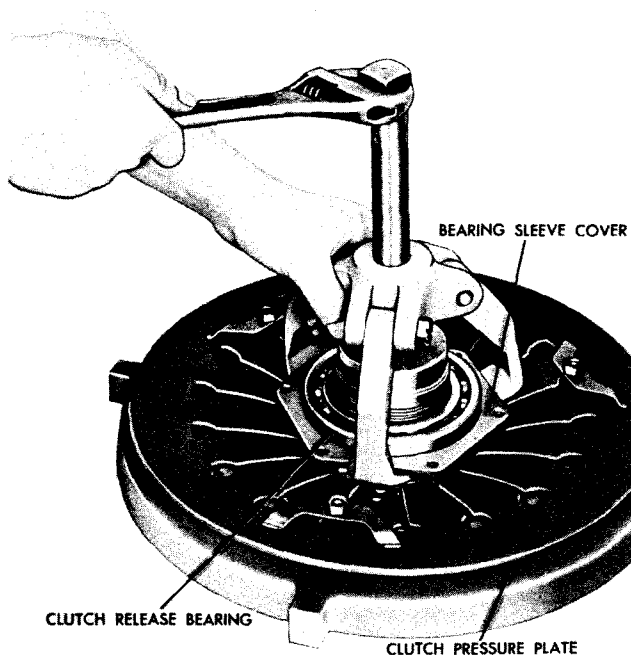

Fig VIII-8. Removing clutch release bearing sleeve cover and clutch release bearing
(2) Using a bearing puller, remove the clutch release bearing sleeve cover together with the clutch release bearing (fig. VIII-8).
hub assembly and press the ball bearing down onto the hub. Refer to fig. VIII-8 showing removal.